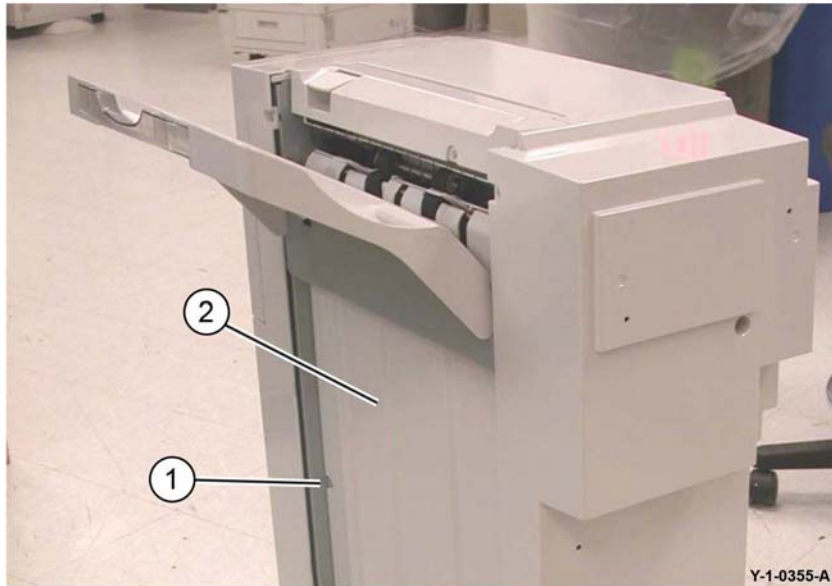

Figure 1 Stacker upper cover removal
3. Remove six screws (1), then the stacker upper cover (2), Figure 1.